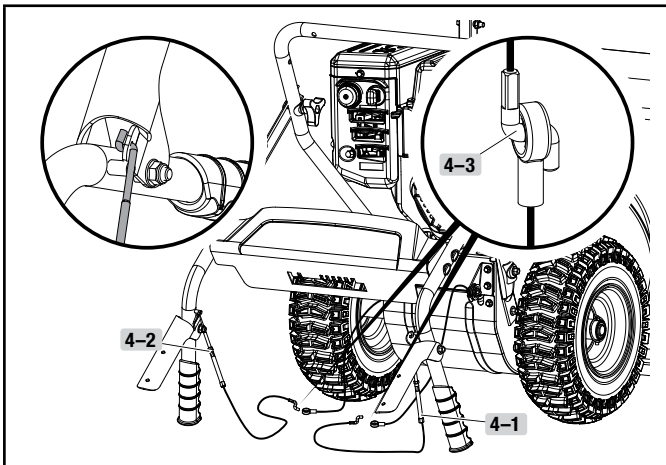

Figure 4
2. Fold handle down backwards (it will require some force to fold backwards) and connect SELF-DRIVE CONTROL HANDLE CABLE (4-1) on the right, and AUGER CABLE (4-2) on the left. (Fig. 4).
3. Insert wire clamps (4-3) together and pull to make sure they are connected. (Fig. 4).